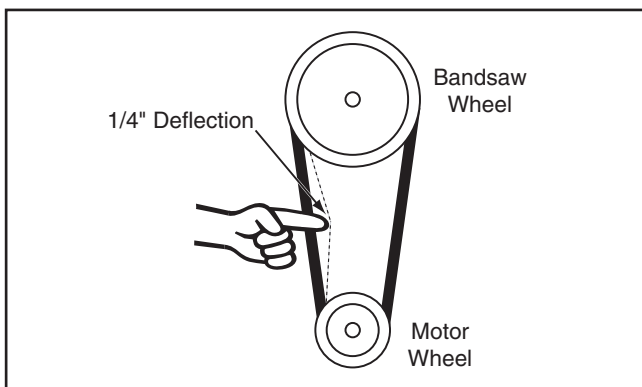

Figure 47. $\frac{1}{4}$ " V-belt deflection.
- Apply pressure on the motor so there is approximately $\frac{1}{4}$ " V-belt deflection (see **Figure 47**), then re-tighten the motor mount cap screws.